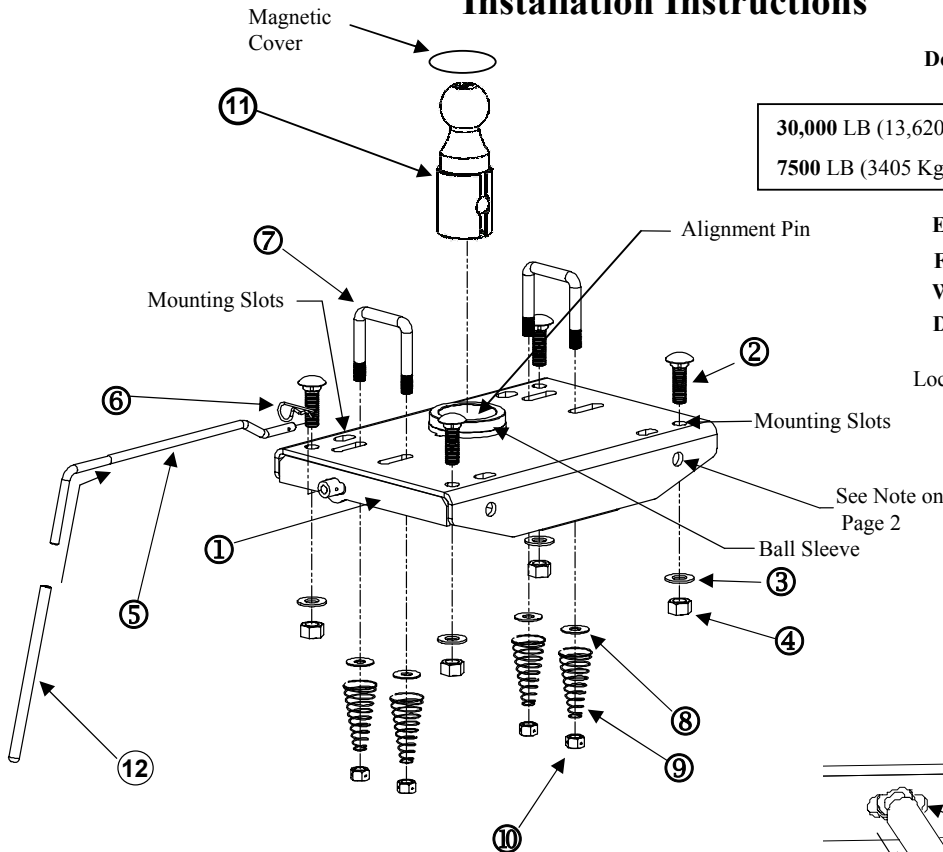

Figure 1
11. From under the truck, install the 1/2" flat washers, U-Bolt springs, and 1/2" lock nuts (SEE FIGURE 1 AND 2). Tighten nuts so a minimum of 3 threads are showing past the nuts.